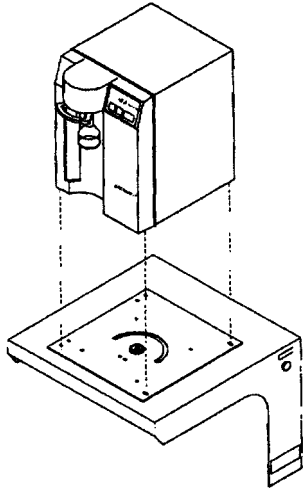

Figure 9: Orientation of Optional Swivel Base
2. Place the EASYpure RODi on the wall bracket swivel base so the screw holes where the feet were attached line up with the holes in the wall bracket. There are guides on the wall bracket that will mate with the EASYpure RODi. See Figure 9.